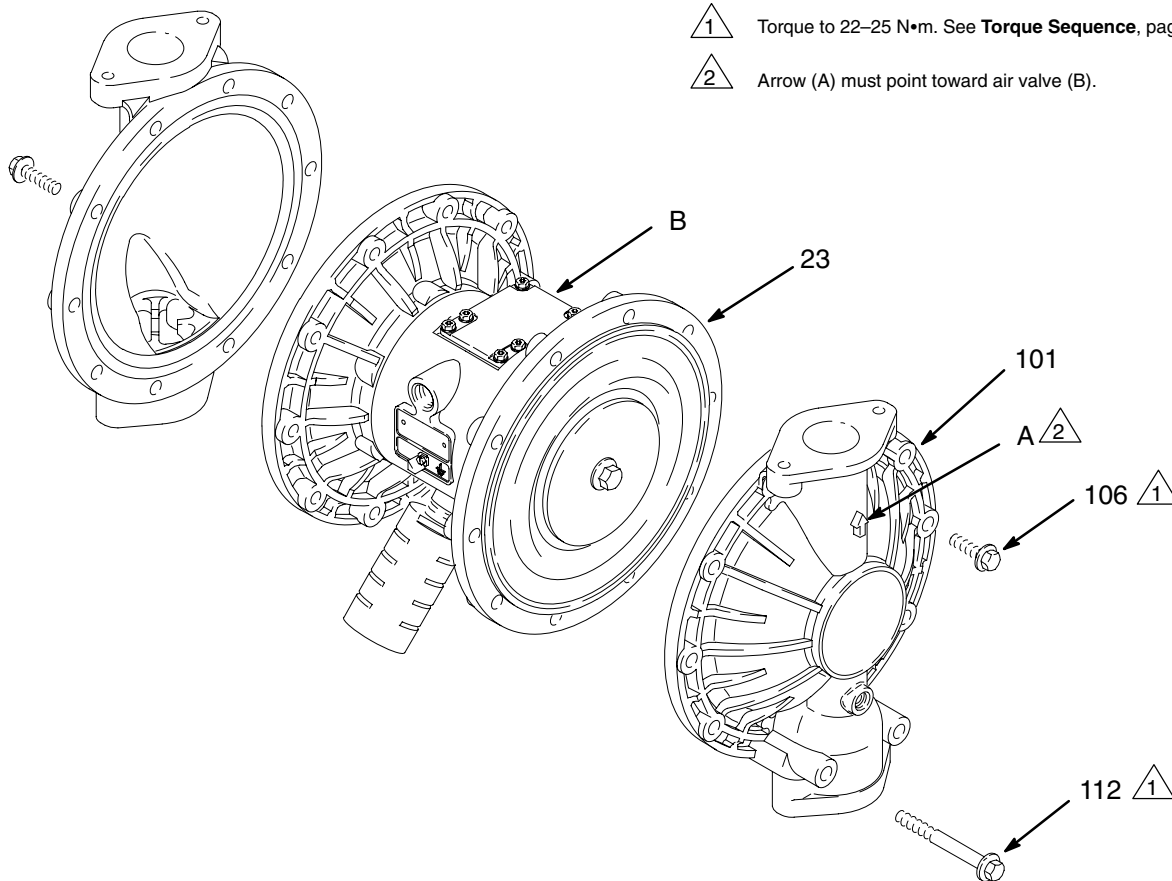
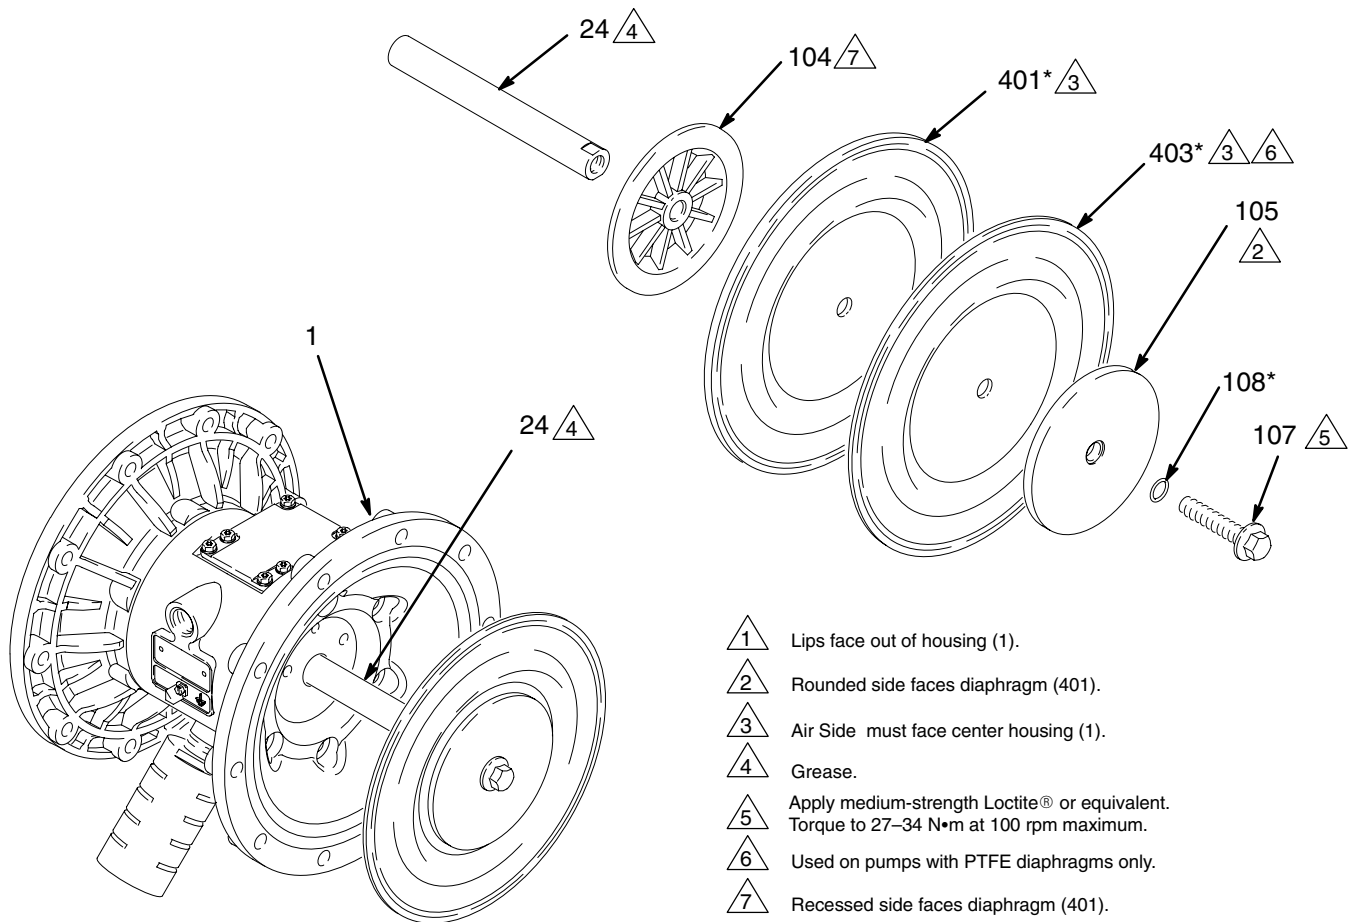

Fig. 11
Fig. 12
3. Using a 13 mm socket wrench, remove the screws (106 and 112) holding the fluid covers (101) to the air covers (23). Pull the fluid covers (101) off the pump. See Fig. 11.
- 2 Arrow (A) must point toward air valve (B).
4. Loosen but do not remove the diaphragm shaft bolts (107), using a 15 mm socket wrench (1 in. on stainless steel models) on both bolts.
5. Unscrew one bolt from the diaphragm shaft (24) and remove the o-ring (108), fluid side diaphragm plate (105), PTFE diaphragm (403, *used on PTFE models only*), diaphragm (401), and air side diaphragm plate (104). See Fig. 12.
6. Pull the other diaphragm assembly and the diaphragm shaft (24) out of the center housing (1). Hold the shaft flats with a 19 mm open-end wrench, and remove the bolt (107) from the shaft. Disassemble the remaining diaphragm assembly.
7. Inspect the diaphragm shaft (24) for wear or scratches. If it is damaged, inspect the bearings (19) in place. If the bearings are damaged, refer to page 20.
8. Reach into the center housing (1) with an o-ring pick and hook the u-cup packings (402), then pull them out of the housing. This can be done with the bearings (19) in place.
- b. Install the fluid side diaphragm plate (105) on the bolt so the rounded side faces in, toward the diaphragm (401).
- c. *On PTFE models only*, install the PTFE diaphragm (403*). Make certain the side marked AIR SIDE faces the center housing (1).
- d. Install the diaphragm (401*) on the bolt. Make certain the side marked AIR SIDE faces the center housing (1).
- e. Install the air side diaphragm plate (104) so the recessed side faces the diaphragm (401).
- f. Apply medium-strength Loctite® or equivalent to the bolt (107) threads. Screw the bolt (107) into the shaft (24) handtight.
1. Install the shaft u-cup packings (402*) so the lips face **out** of the housing (1). Lubricate the packings. See Fig. 12.
2. Install the diaphragm assembly on one end of the shaft (24) as follows:
- a. Install the o-ring (108*) on the shaft bolt (107).
6. Align the fluid covers (101) and the center housing (1) so the arrows (A) on the covers face the same direction as the air valve (B). Secure the covers with the screws (106 and 112), handtight. Install the longer screws (112) in the bottom holes of the covers. See Fig. 11. Using a 13 mm socket wrench, torque the screws oppositely and evenly to 22–25 N•m. See **Torque Sequence**, page 28.
6. Remove the air cover gaskets (22). Always replace the gaskets with new ones.
7. Use a bearing puller to remove the diaphragm shaft bearings (19), air valve bearings (12) or pilot pin bearings (15). Do not remove undamaged bearings.
8. If you removed the diaphragm shaft bearings (19), reach into the center housing (1) with an o-ring pick and hook the u-cup packings (402), then pull them out of the housing. Inspect the packings. See Fig. 12.